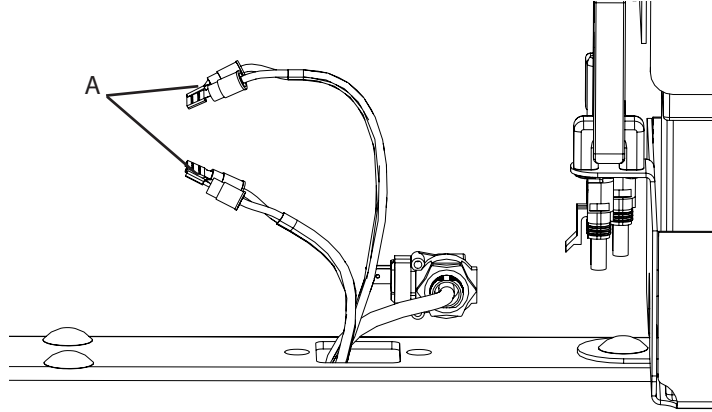

Figure 6: Removing the terminals from the motor harnesses.
- Cut off the terminals (A) on the ends of the motor harnesses and strip the ends (1/4" length) of the wires. (Figure 6)